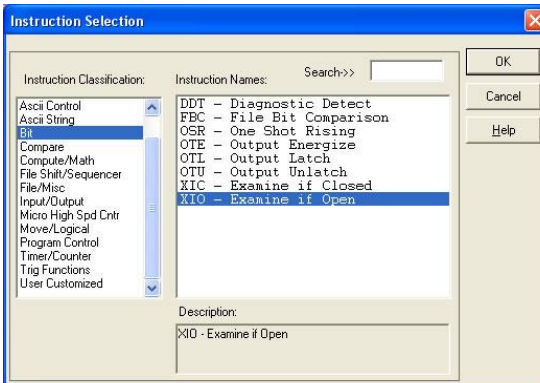

Figure 64: XIO Instruction Selection
- b) Select the “XIO” instruction from the “Bit” classification, then click OK. Refer to Figure 64.